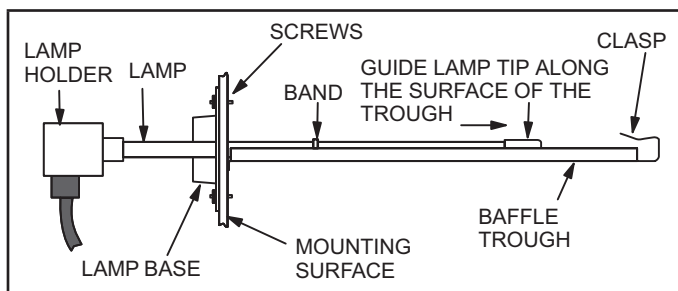

FIGURE 9. Guiding Lamp into Shielding Baffle
- 4 - Be careful not to disturb the band in the center of the lamp. Insert the assembled lamp holder into the lamp base. **If lamp shielding baffle is used** – be sure the far end of the lamp rides in the baffle's trough and engages in its clasp (see figure 9).